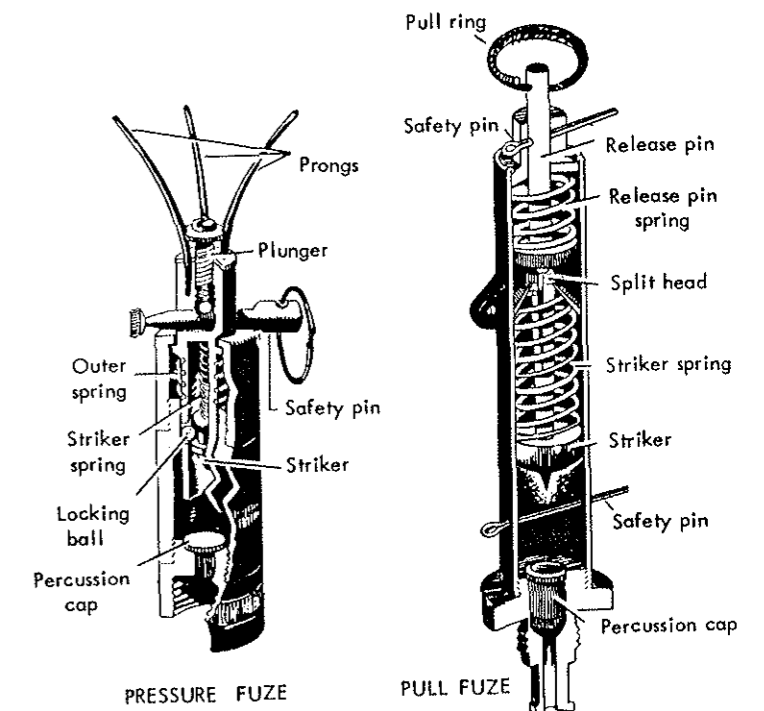

Figure 40.
- h. What are the name, construction, and material of the component parts (figs. 40, 41, and 42)? What is the sequence of operation? What are the safety devices?